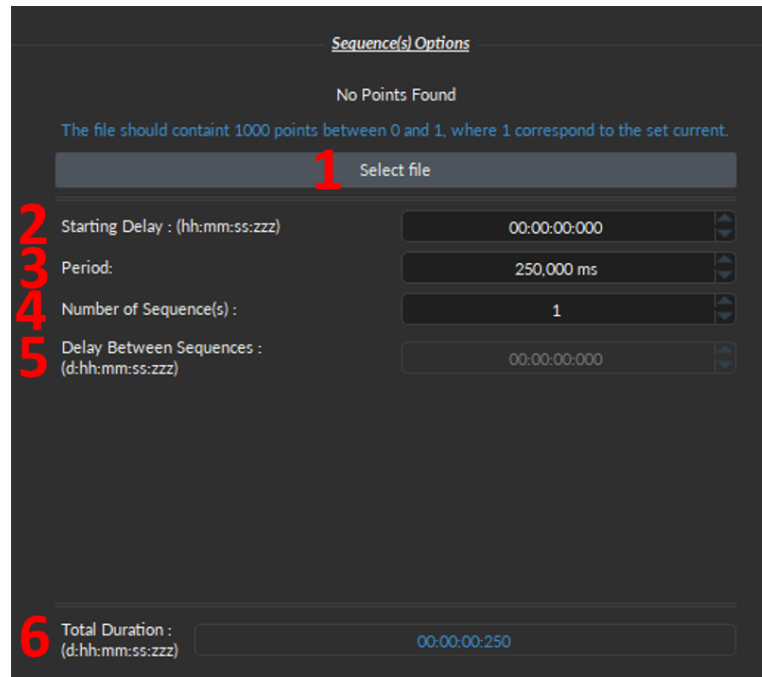

Figure 5.11: Custom File Sequence
2. The **Starting Delay** (Fig. 5.11) sets the delay (in hh:mm:ss:zzz format) before the first pulse sequence.
3. The **Period** (Fig. 5.11) sets the period (in ms) for the pulse sequence contained in the file.
4. The **Number of Sequences** (Fig. 5.11) sets the number of times that the sequence will be repeated, with a minimum of 1.
5. The **Delay Between Sequences** (Fig. 5.11) sets the delay (in hh:mm:ss:zzz format) between each sequence if the **Number of Sequences** is greater than 1.
6. The **Total Duration** (Fig. 5.11) displays the total time of the experiment. The displayed values can be *Inf* for infinite or a valid time value.